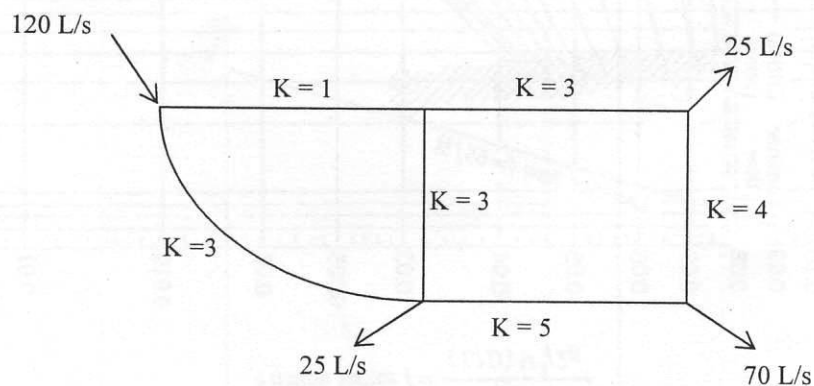

Figure 6
(b) If the flows into and out of a two-loop pipe system are as shown in figure 6, determine the flow in each pipe. The  $k$ -values for each pipe are given in the figure. Use Hardy Cross method. (10)